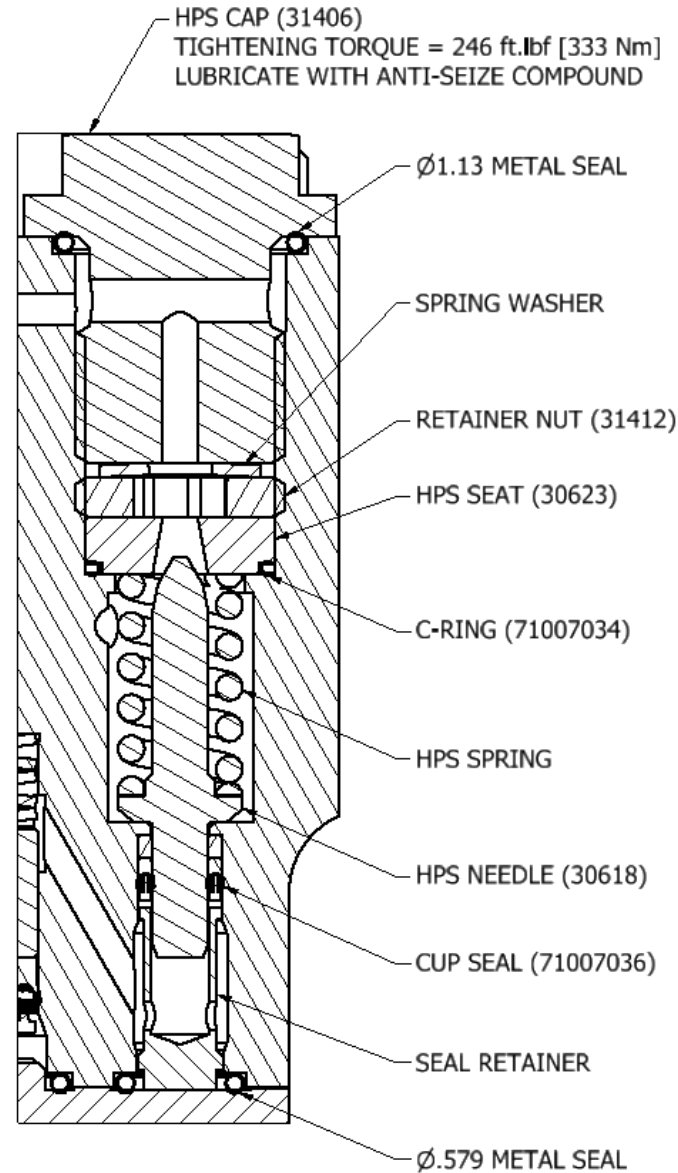

Figure 6 – HPS Cross Section
- 7.13 Remove the HPS seal retainer. See Figure 6 for reference.
- 11.28 Drop the HPS needle into the body and carefully press into cup seal. See Figure 6.